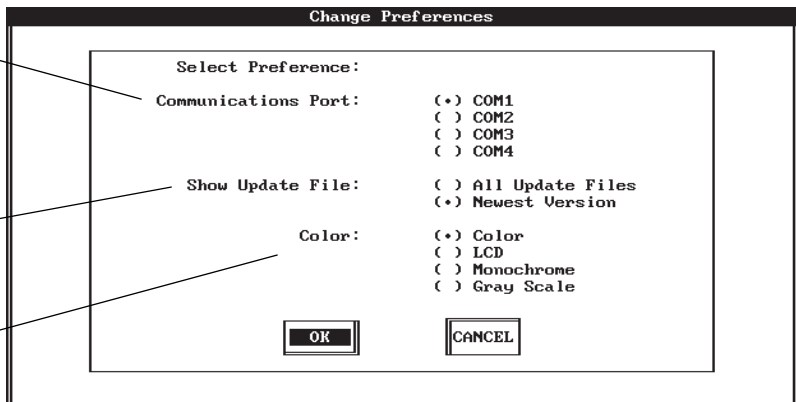

Figure 5-10 Preferences Window
FLASH UPDATE has a set of factory settings that appear in Figure 5-10. Change them when your computer requires different settings.
2. Select Preferences from the Options menu. The notes in Figure 5-10 explain the selections in the window. When you have selected your preferences, select OK.